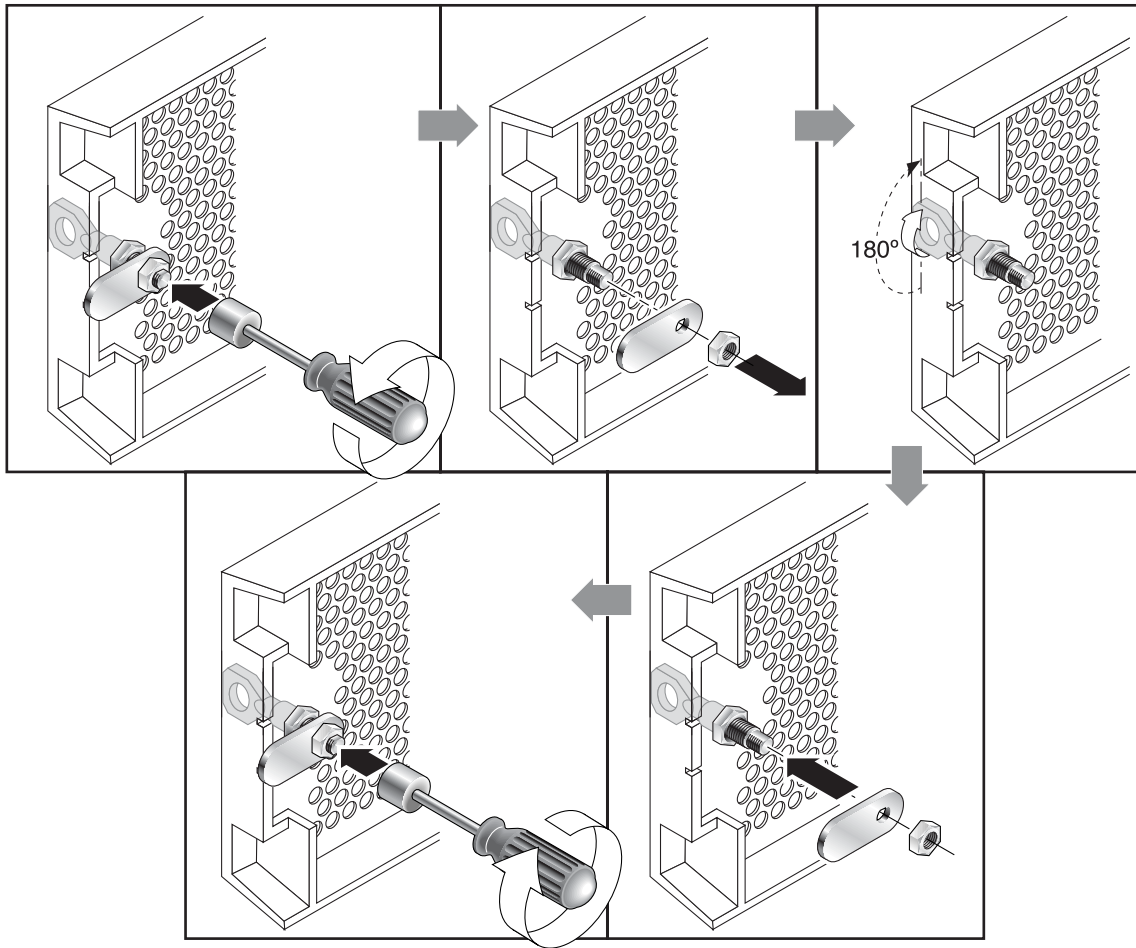

Figure 2-2 Sequence of Steps to Change Front Bezel Locks So Keys Cannot Be Removed
3. Hold the key in place and use a 12-mm or 3/8-inch nut driver to remove the locking nut that holds the pawl in place, as shown in the first panel of Figure 2-2.
4. Lift the pawl off the threaded part of the lock body, as shown in the second panel of Figure 2-2.
6. Use the key to turn the lock 180 degrees, as shown in the third panel of Figure 2-2.
7. Replace the pawl in the same orientation as before, as shown in the fourth panel of Figure 2-2.
8. Hold the key in place and use the nut driver to refasten the locking nut that holds the pawl in place, as shown in the fifth panel of Figure 2-2. Be careful not to cross-thread the nut.